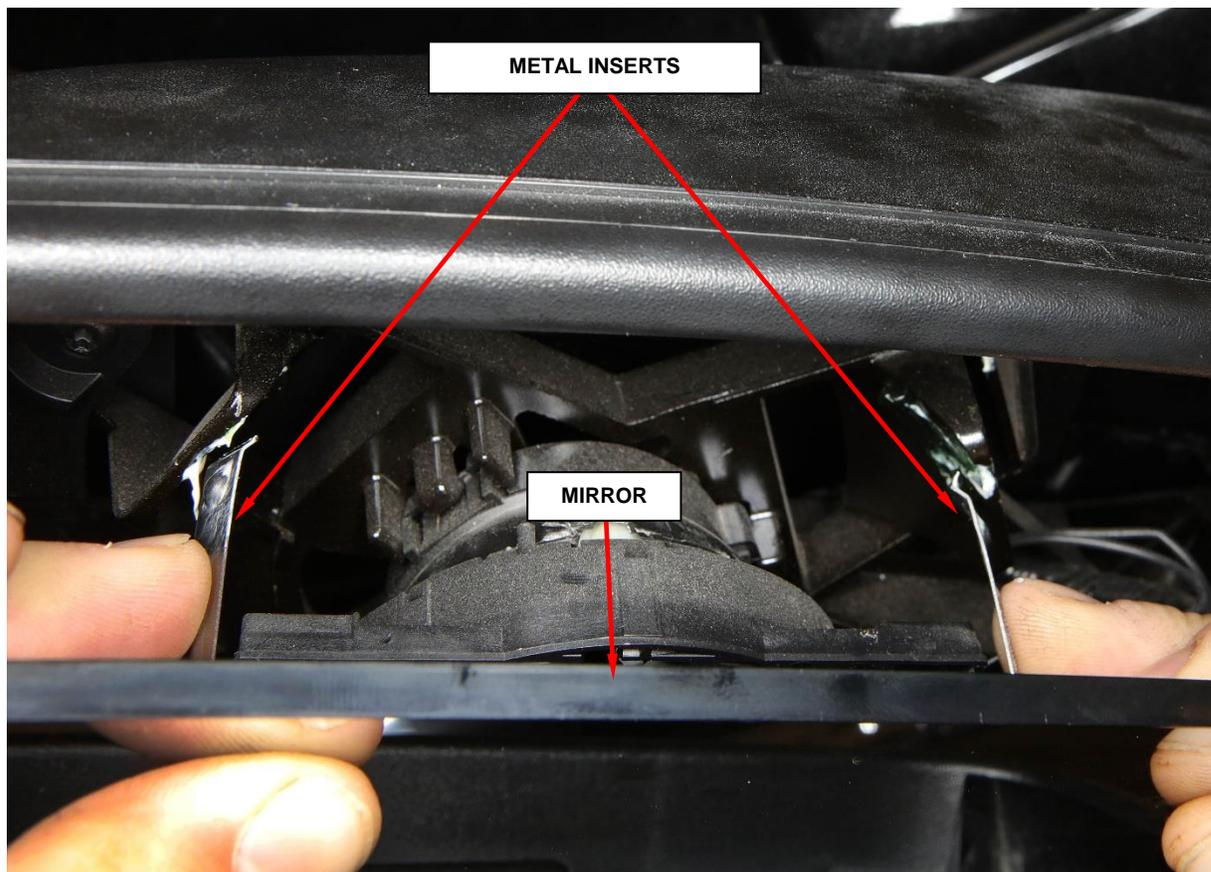

Figure 7 – Mirror Metal Inserts
4. Push the top of the glass back into the housing and seat the mounting clips fully (Figure 7).